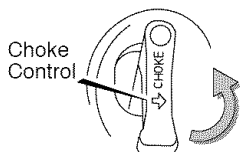

Figure 9
2. Move the choke control to the **START** position (see Figure 9).